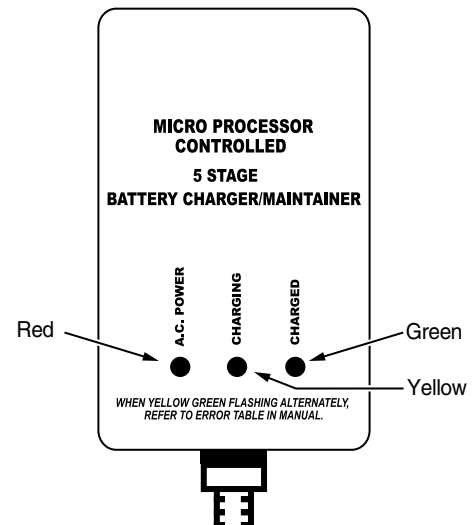

Figure 10 – FG100-A1 LED Panel
4. With the charger properly connected and plugged in, the panel on the front of the charger will show one of the conditions illustrated in Figure 10.